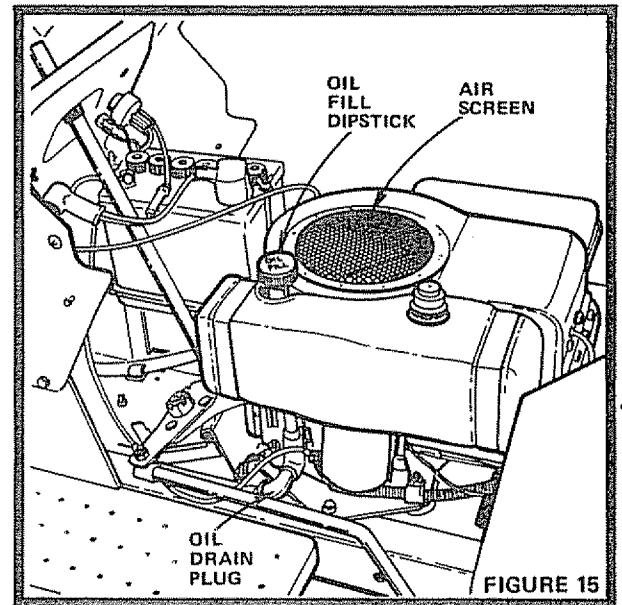

FIGURE 15
- Drain Oil with Engine warm. Unscrew Oil Drain Plug (Fig. 15) and remove Dipstick. Catch Oil in a suitable container. Replace Plug.
Air Screen (Fig. 15) must be kept free of dirt and chaff to prevent Engine damage from overheating.